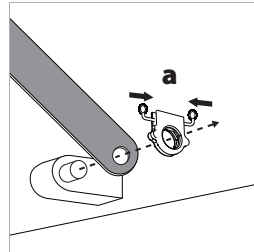

Fig. 38a
- RAGE3-S300 model only - remove the clip that holds the blade guard release mechanism in place by pinching the metal spring ends together. **(Fig. 38a)**.